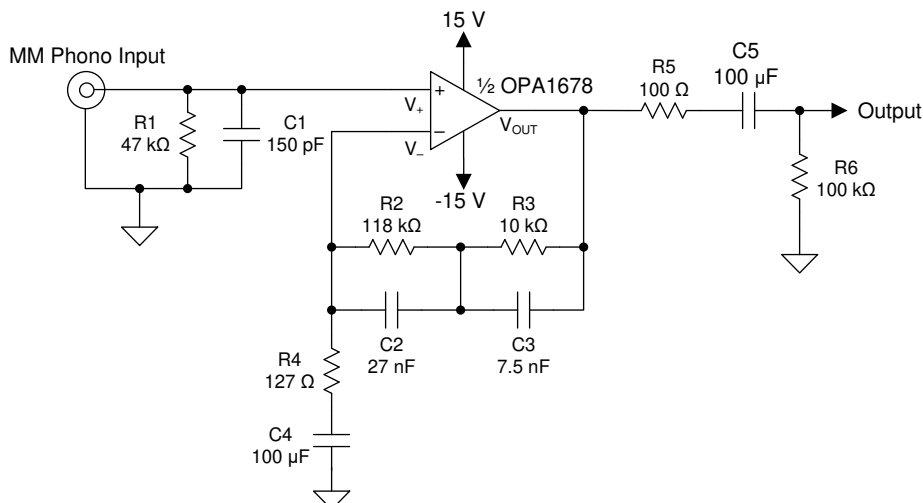

图 8-4. Phono Preamplifier for Moving Magnet Cartridges (Single-Channel Shown)
The noise and distortion performance of the OPA167x family of amplifiers is exceptional in applications with high source impedances, which makes these devices a viable choice in preamplifier circuits for moving magnet (MM) phono cartridges. 图 8-4 shows a preamplifier circuit for MM cartridges with 40 dB of gain at 1 kHz.